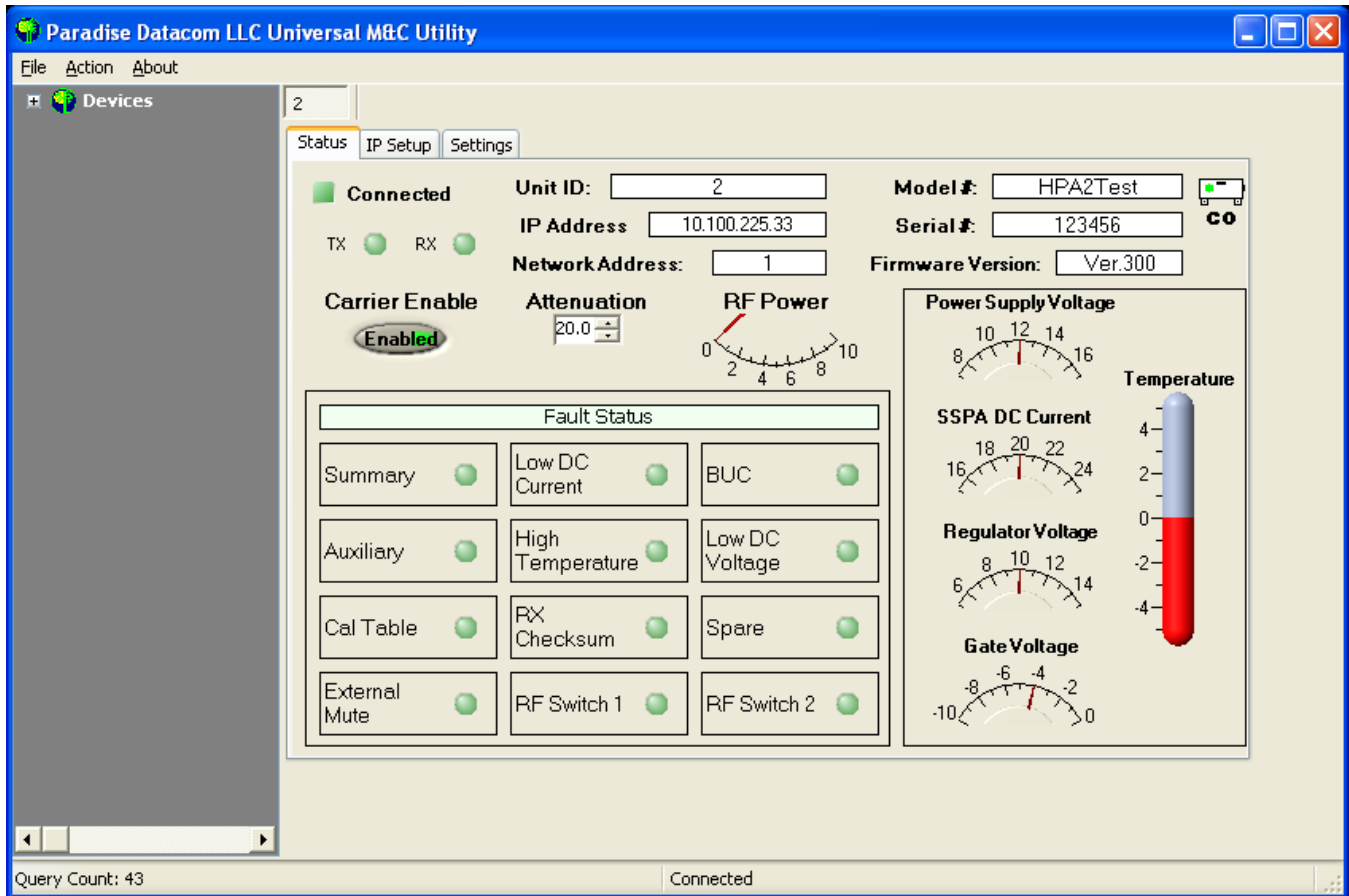

Figure 3-3: Universal M&C Status Window
- The M&C "Operation" window will be displayed as in Figure 3-3, and includes tabs for the unit Status window, Settings and IP Setup (where applicable).